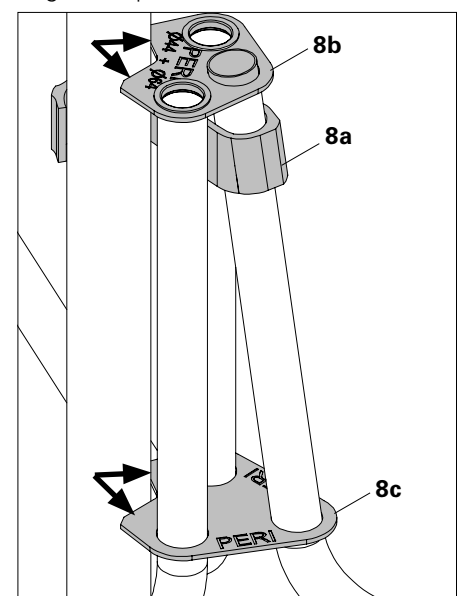

Fig. A1.03a
3. Ensure that slab prop lies flat to the top and bottom connection plates (8b and 8c). (Fig. A1.03a)